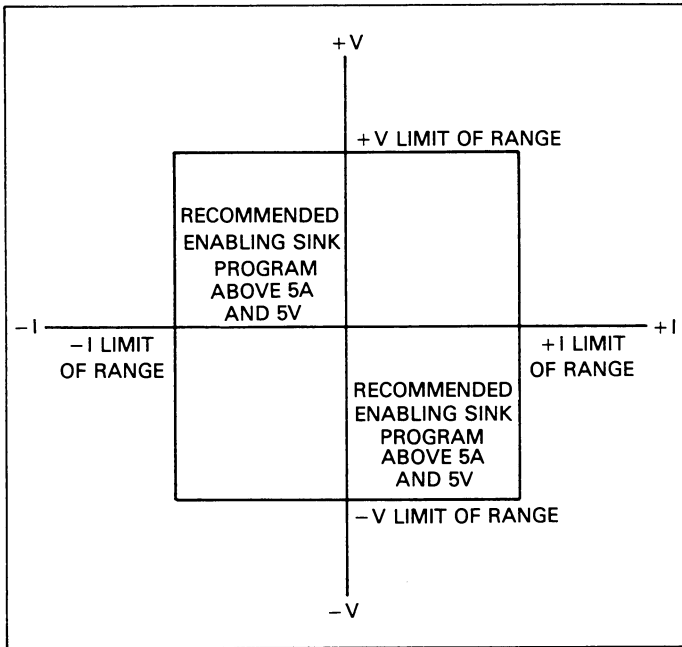

Figure 3-12. Model 228 Recommended Operating Limits
As can be seen by the graph and/or Figure 3-12, when voltage and current both have the same sign (positive or negative), the Model 228 is in the source mode.
If the voltage or current have different polarity, then the Model 228 is in the sink mode. In the sink mode, the Model 228 accepts power (dissipates) instead of providing the power. Operating the Model 228 as an active load dissipates power up to the limits shown in Figure 3-12. Of course, the limits shown in Figure 3-12 must not be exceeded.
When the Model 228 is used in the sink mode, that is, power is delivered to the Model 228 by an external power source. Care should be taken to limit the power delivered to the Model 228 as shown in Figure 3-12. If power dissipated within the Model 228 exceeds these limitations, overheating and damage to the instrument may occur. For example, if the external power source is capable of delivering greater than 1A, then the voltage across the Model 228 output terminals must be less than 100V ($100V \times 1A = 100W$).
3. Program the desired current value. In this example, the current is programmed as positive. The external source determines whether the Model 228 acts as a source or an active load. Refer to Figure 3-12 and/or the front panel COMPLIANCE graph.